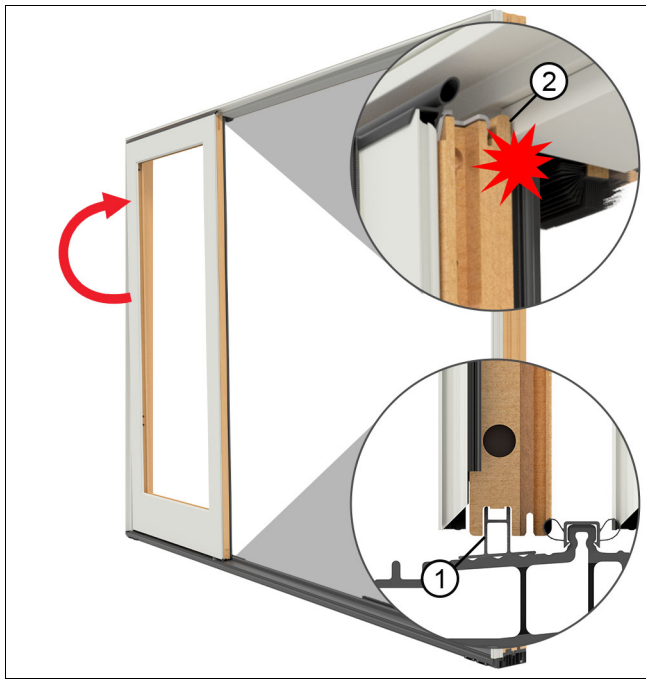
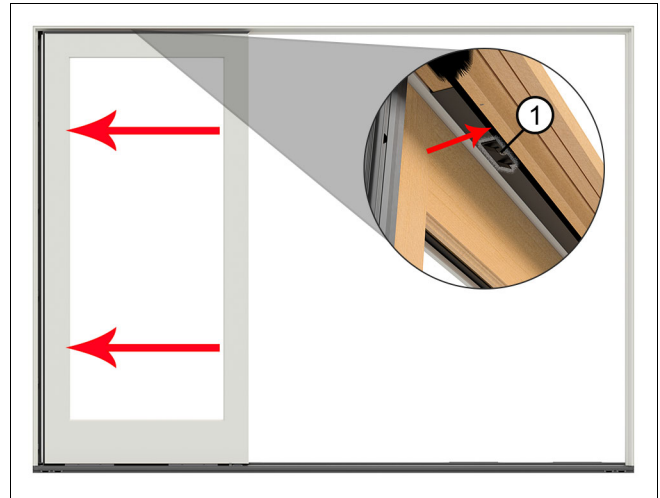

Figure 31
Figure 32
5. Tip the panel in until it hits the aluminum parting stop. See Figure 31 and Figure 32.
6. Slide the panel past the aluminum parting stop to the jamb. Now push the panel in until it contacts the wood parting stop. Clips at the head jamb will hold the panel in place and aid in alignment. See Figure 32.